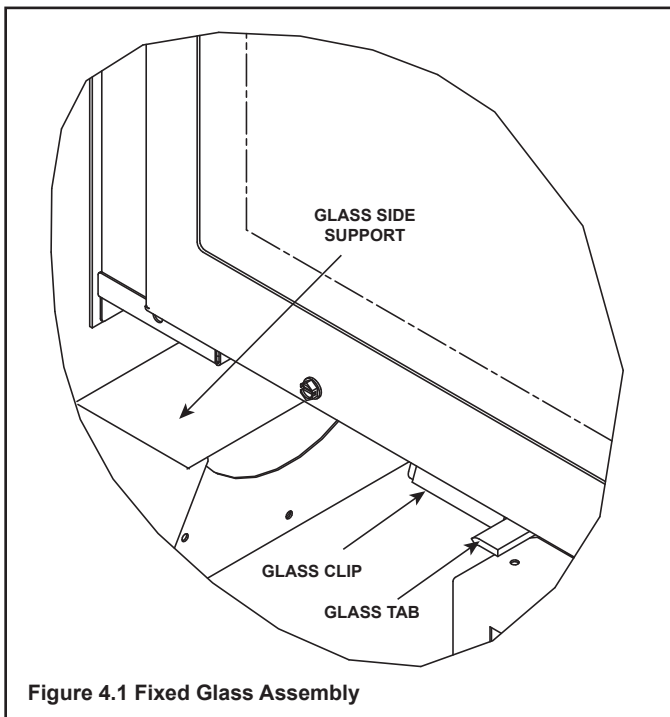

Figure 4.1 Fixed Glass Assembly
3. Use both index fingers to release spring latches. See Figure 4.1.
4. Allow glass to tilt forward. Grasp glass on the upper return lip of glass frame and tilt glass “out” and “down”. Lower gently to rest on side supports. See Figure 4.1. Allow top of glass assembly to tilt forward. Lift glass assembly “up” and “out”.
4. Hold bottom of the glass as you allow the glass assembly to seat over the two lower glass clips. See Figure 4.1.